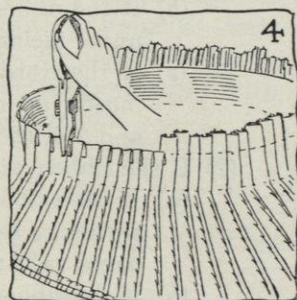

FIG. 4.
- h.* Backstitch this wire to the brim firmly on both edges and just over the headsize wire, but not up to the top headsize (see Figure 4, page 115).
- a. Turn down all the $\frac{1}{2}$ -inch pieces of ribbon wire that extend above the headsize, even with the top of the headsize band, and against the outside of the headsize band (see Figure 4).
- b. Press the turned-down edges of ribbon wire flat with nippers (see Figure 4).